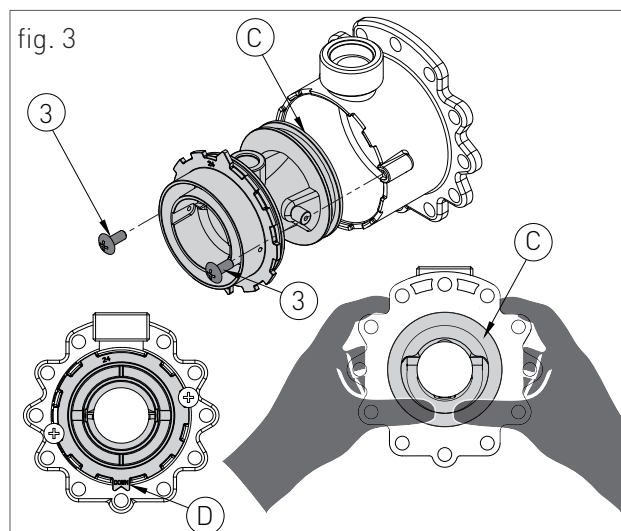

fig. 3
- › remove the two screws '3' (fig.3) and apply pressure on the rear side of venturi 'C' (fig.3);
- › replace the body venturi with the one suitable for the type of supply gas (For the "25 kW" Master unit the venturi's body is code 30-00166 for Natural gas / code 30-00169 for Universal LPG. For the "50 kW" Slave unit the venturi's body is code 30-00225 for Natural gas / code 30-00226 for Universal LPG) and make sure the tooth 'D' (fig.3) is adjusted downwards on the aluminium ring nut (see fig.3);